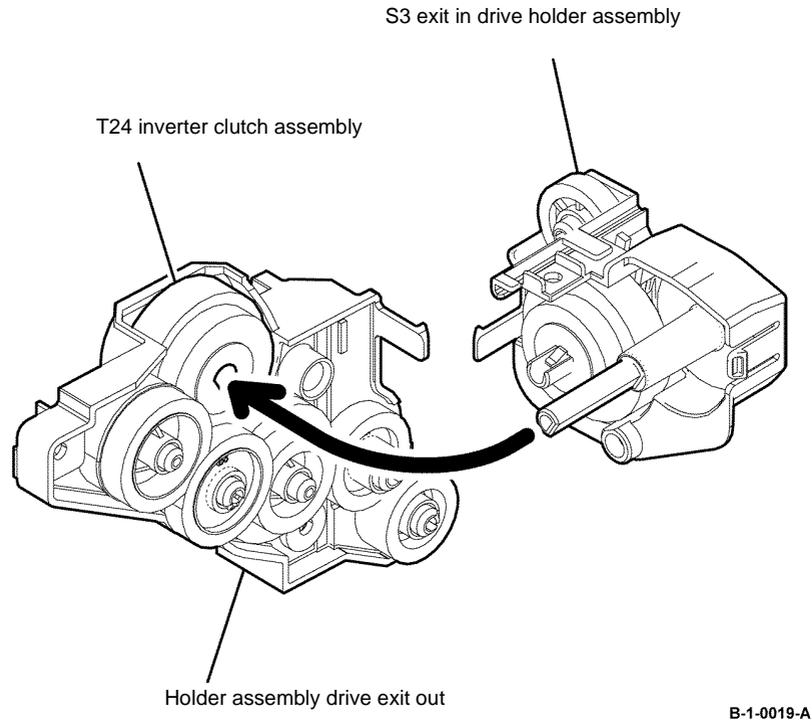

Figure 6 Exit in drive holder assembly installation
- When installing the exit in drive holder assembly, fit the D-shaped shaft of the exit in drive holder assembly into the D-shaped hole of the T24 inverter clutch assembly, **Figure 6**.